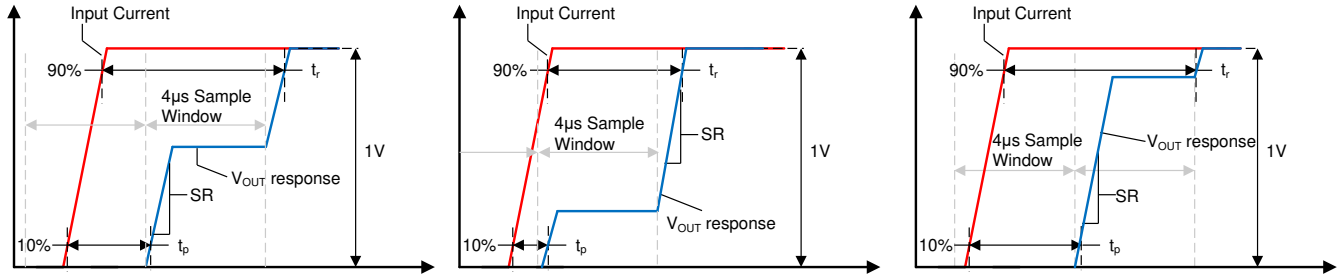

Figure 8-3. Small Current Input Step Transient Response
Slew rate (SR) is defined as the VOUT rate of change for a single integration step's output transition, as shown in Figure 8-3. Because the device often requires two sampling windows to reach a full 90% settling of its final value, this slew rate is not equal to the 10%-90% transition time for the full output swing.
Propagation delay is the time period between the input current waveform reaching 10% of its final value and  $V_{OUT}$  reaching 10% of its final value. This propagation delay is heavily dependent upon the alignment of the input current step and the sampling period of the TMCS1101, as shown for several different sampling window cases in Figure 8-3.
Response time is the time period between the input current reaching 90% of its final value and the output reaching 90% of its final value, for an input current step sufficient to cause a 1-V transition on the output. Figure 8-3 shows the response time of the TMCS1101 under three different time cases. Unless a step input occurs directly during the beginning of one sampling interval the response time will include two sampling intervals.